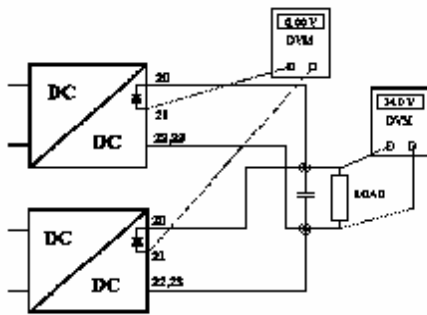

Figure 4. Adjusting output voltage
2. Measure the voltage at the load. Connect voltmeters as showed in *Figure 4*. If you have only access to one voltmeter you must move it around to make the adjustments. This will take time but is of course possible.
- i. Increase the output voltage by turning the potentiometer marked "V.ADJ" clockwise on the unit with the lowest output voltage until you reach the desired voltage at the load or until the output voltage does not increase anymore (as the unit is in current limit). To find the unit with the lowest output voltage you can measure the voltage difference before the series diode, as in *Figure 4*.
- i. Decrease the output voltage by turning the potentiometer marked "V.ADJ" counter clockwise on the unit with the highest output voltage until you reach the desired output voltage at the load or until the output voltage does not decrease anymore (as the other units supply all current). To find the unit with the highest output voltage, measure the voltage difference before the series diode, as in *Figure 4*.